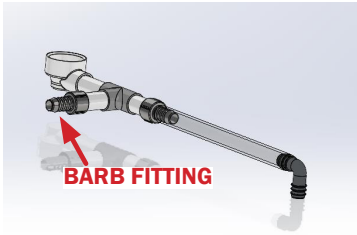

Fig. 29a Drain Assembly with Adapter (high charge)
4. Install the PVC Drain Assembly (Figs. 29a and 29b) to the case drain hub on the bottom of the case. For high charge cases (>150g), the drain solution with adapter and blower systems (leak mitigation solution) is used, and the barb fitting should be pointing to the rear of the case. For low charge cases (<150g), the standard drain is used.